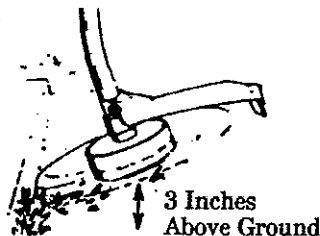

Figure 14
1. **TRIMMING** - Figure 14. Hold the bottom of the trimmer head about 3 inches above the ground and at an angle. Allow only the tip of the line to make contact. Do not force the trimmer line into the work area.